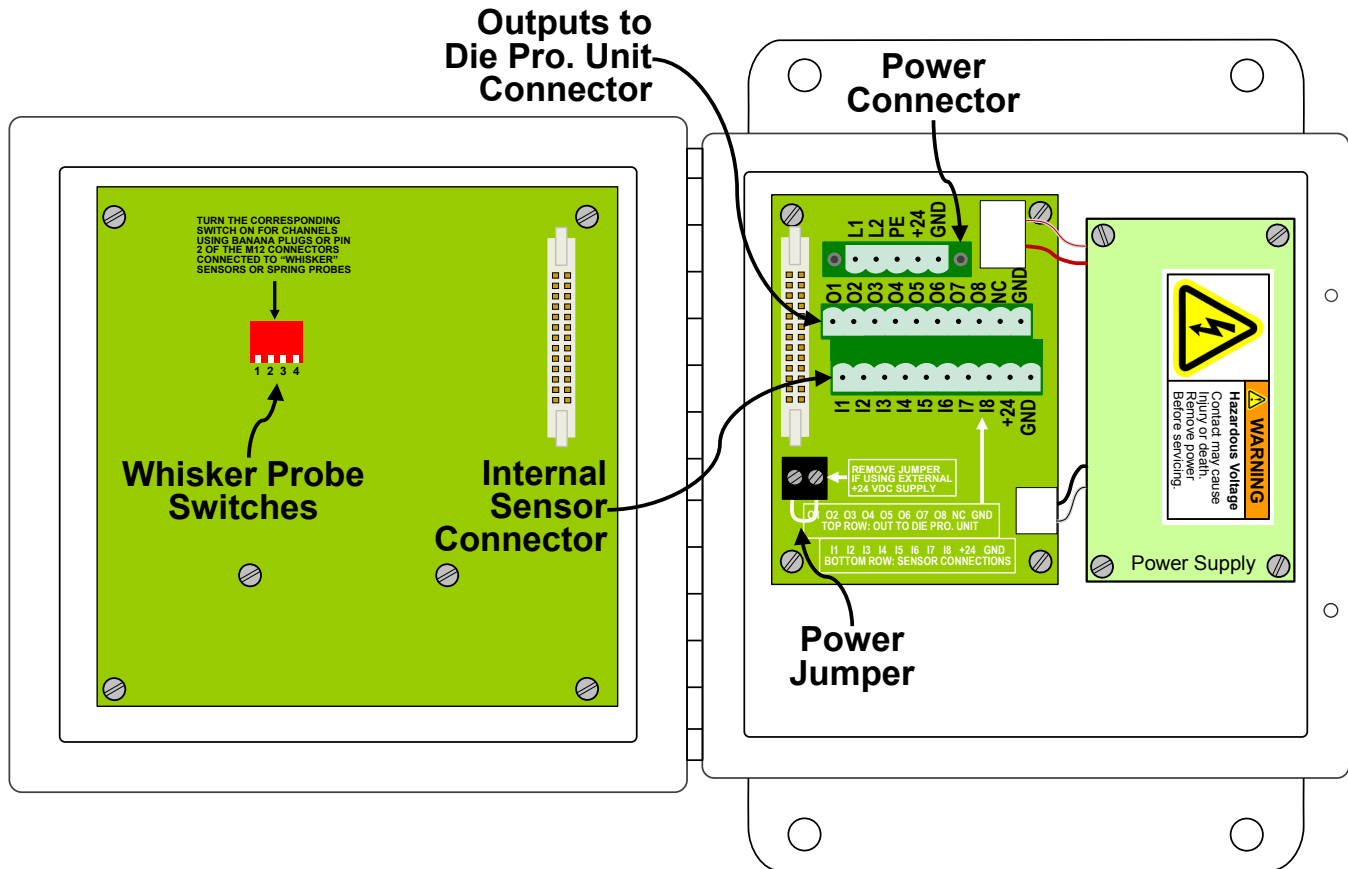
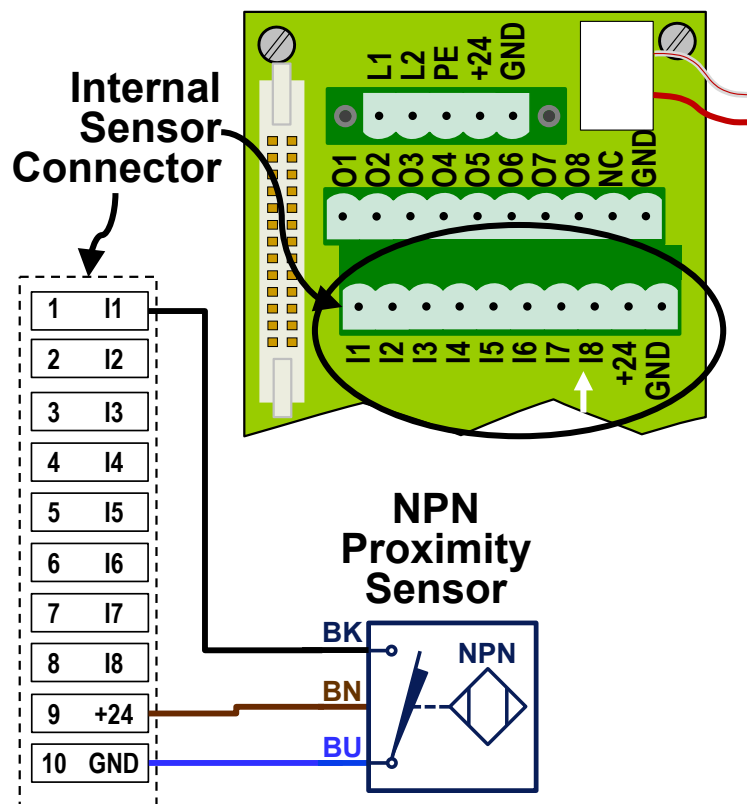

Figure 3: 2620 Sensor Interface Internal Features
Figure 4: Typical Wiring to Internal Sensor Connector
| Figure 3: 2620 Sensor Interface Internal Features .....     | 6 |
| Figure 4: Typical Wiring to Internal Sensor Connector ..... | 7 |
In the following sections, refer to Figure 3 below for the locations of particular connectors and other relevant features.
| Power Connector (See Figure 3) |   |
**NOTE:** *When using an external +24 VDC supply, the Power Jumper (see Figure 3) must be removed.* This disconnects the internal +24 VDC supply of the Sensor interface.
**WARNING:** The Sensor Interface can be powered from **EITHER** 100-240VAC **OR** +24VDC. **Never** hook up both AC and DC power at the same time. *When using an external +24 VDC supply, make sure the Power Jumper (see Figure 3) is removed* so that the internal +24 VDC supply is disconnected.
The Internal Sensor Connector (see Figure 3) is primarily used in conjunction with a Quick Connect bulkhead connector for mass die termination or if there are some sensors that are always present on the machine regardless of what die is installed. Link offers (Link PN 109090) an optional quick connect bulkhead connector (using a Turck CS-19 connector) that is prewired and ready to plug into the Internal Sensor Connector. Figure 4 at right shows how a typical sensor is wired into this connector. The unit is supplied with a blank plate for mounting an existing connector if a connector system is already in use.
There are also 3 Banana Plug/Binding Post connectors on the front of the Sensor Interface that are intended for use with single wire grounding sensors such as Whisker Probes, Spring Probes, or other mechanical sensors that are grounding in nature. Note that Pin 2 on the first 4 of the M12 connectors (labeled WP for “Whisker Probe”) is also a grounding-only input so that such sensors can be tied in that way as well. For these sensors, it may be necessary to source more current through the sensor than is required with solid state sensors in order to maintain good electrical contact. The grounding inputs have extra pull-ups for this purpose and even more current can be supplied by switching on the corresponding dip switch for that channel on the door board of the unit (see “Whisker Probe Switches” in Figure 3).